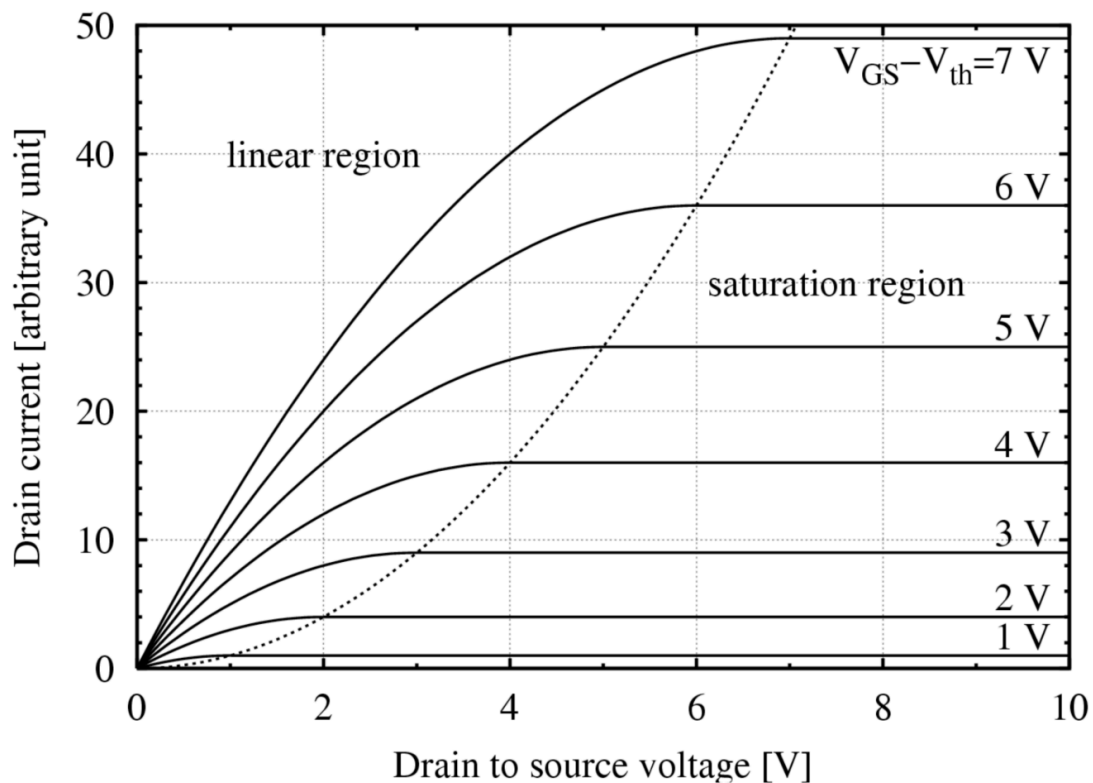

Figure 7: Typical output characteristics of a MOSFET. These vary greatly between different types of MOSFETs. Always check the data sheet for your exact part.
MOSFETs can operate in three distinct regions. The first region is where the gate-to-source voltage, V_{GS} , is less than the threshold voltage, V_{th} . In this region, the MOSFET is turned off and no drain current can flow. The second region (the linear region) is when $V_{GS} > V_{th}$ and $V_{DS} < (V_{GS} - V_{th})$, where V_{DS} is the drain-to-source voltage. In this linear region, the transistor is turned on, and a channel has been created that allows current to flow between the drain and the source. In this region, the MOSFET operates like a voltage controlled resistor, controlled by the gate voltage relative to both the source and drain voltages. In the third region (the saturation region), $V_{GS} > V_{th}$ and $V_{DS} \geq (V_{GS} - V_{th})$. In the saturation region, the current is controlled by the gate voltage and is nearly independent of V_{DS} . One of the most common applications of a MOSFET is as a switch (for binary logic for example), where it is operated in the saturation region. The linear and saturation regions are separated by the dotted line in Figure 7. In the saturation region, the dependence of current on V_{GS} is modeled by $I_D = k(V_{GS} - V_{th})^2$, where k is a constant that depends on the device.
2. Does your plot generally resemble the one shown in Figure 7 (if not, identify the mistake and resolve it)?